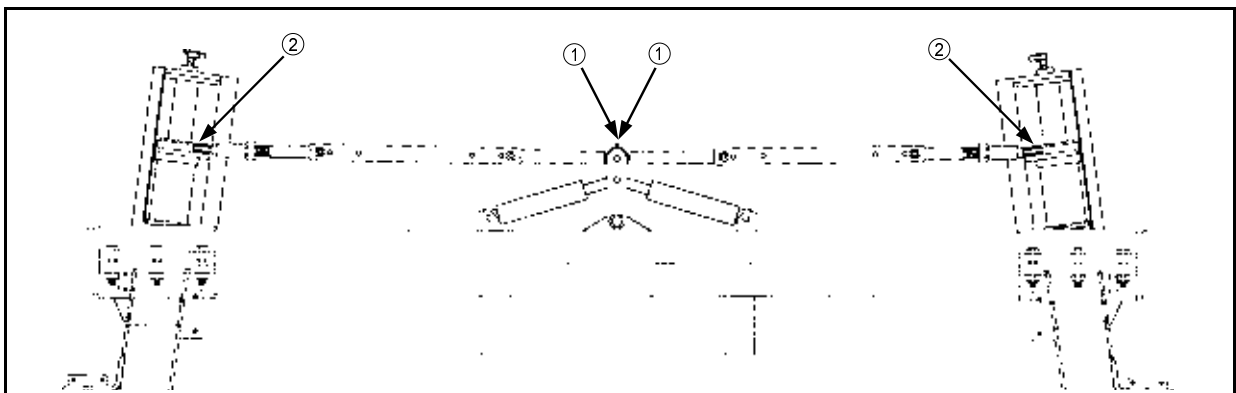

FIG 8.35
To steer, the inner leg weldment also pivots inside the outer leg weldment. The tie rods connected to the steering legs have grease zerks on both each inner tie rod end (fig. 8.35, item 1) and each outer tie rod end (fig. 8.35, item 2). To maintain freely operating steering, they should be serviced every 50 hours; check tie rod linkage daily.